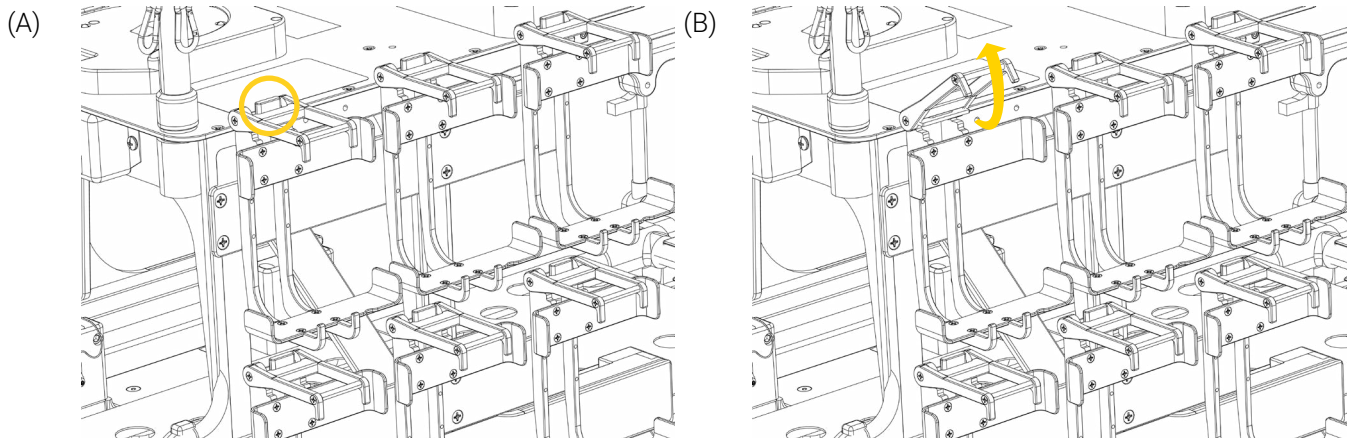

Figure 11: Opening the infusion pump holder
1. Pull the quick release mechanism on the pump holder forward (Figure 11 A), then lift the top part of the holder to open it (Figure 11 B).